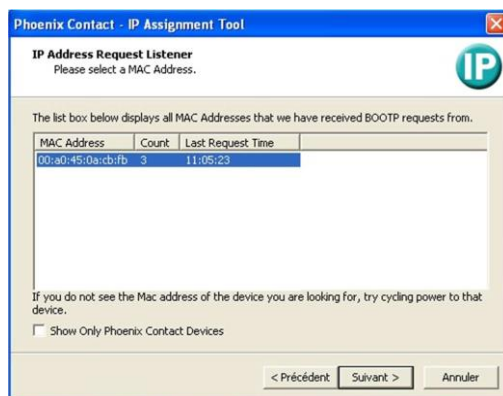

Figure 6. MAC address scan.
- The software scans the connected interfaces having no IP address configured (see Figure 6). The Phoenix bus controller is located with its MAC address. You should see this address on the controller and look for this MAC address in the list, select it and press « Suivant ».